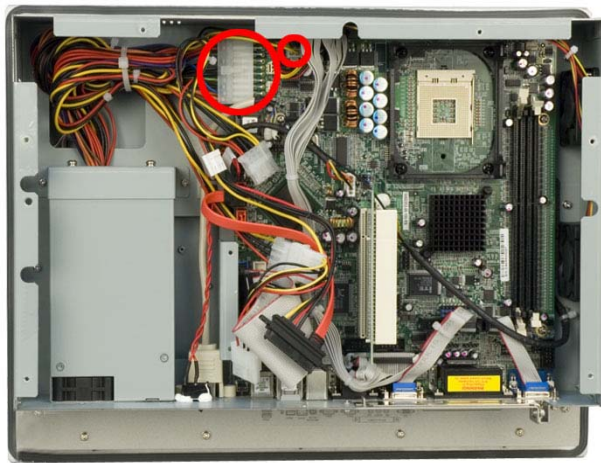

Figure 4-9: PSU Motherboard Connectors
Step 3: Disconnect all PSU connections including those to the motherboard (**Figure 4-9**) and any disk drives.